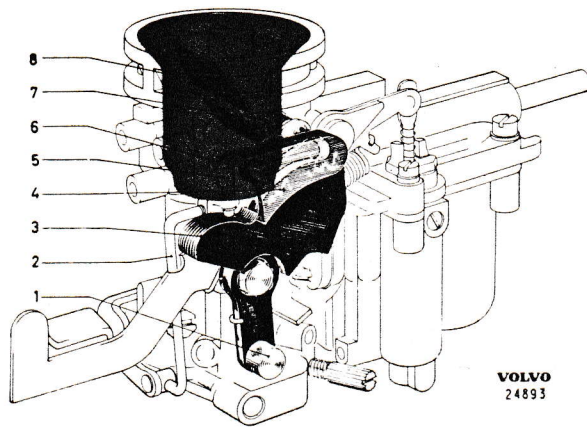

Fig. 10. Choke device with rapid idling
used and this is operated from the knob on the dashboard. When the choke control is pulled out when starting, the cam-shaped lever (4, Fig 10) is actuated. This influences the choke flap (8) through the spring (7) on the flap spindle so that it closes, this resulting in a higher degree of vacuum and a consequently higher rate of fuel flow. When the engine has started and the degree of vacuum increases, the throttle can open itself to a certain extent, since the closing force is obtained by the spring on the choke spindle. This eliminates the risk of excessively rich fuel/air mixture when the choke is completely or almost completely closed. When the choke knob is pushed in again, the choke flap is forced to open fully since the flap lever pin (6) runs in a groove on the cam-shaped lever.